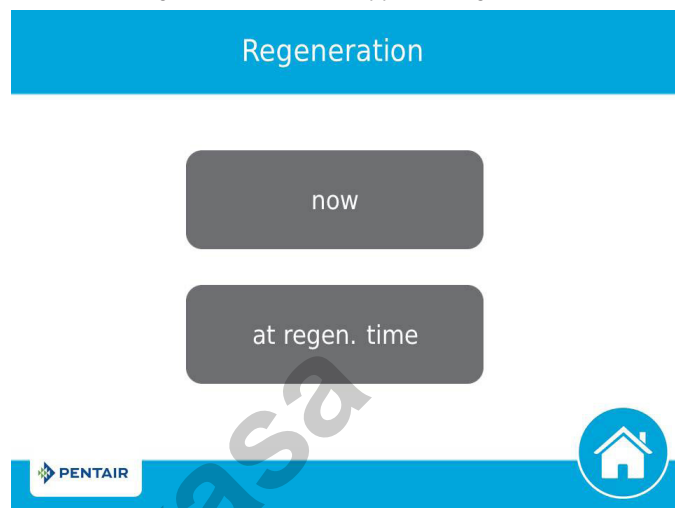

Figure 10 Regeneration Screen
6. Start a regeneration by pressing the **Regeneration** button . The Regeneration screen appears (Figure 10).